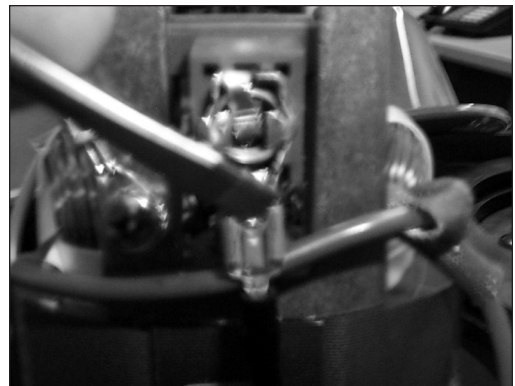

Fig. 2
4. Remove the wire terminal from carbon brush housing. **See Figure 2**